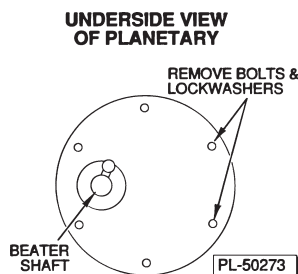

Fig. 7
### Model V1401 (Figs. 7, 8)
2. Remove the two 1/2" Bolts and Lockwashers which are opposite the beater shaft (Fig. 7) on the underside of the Planetary. Discard the Bolts and Lockwashers.